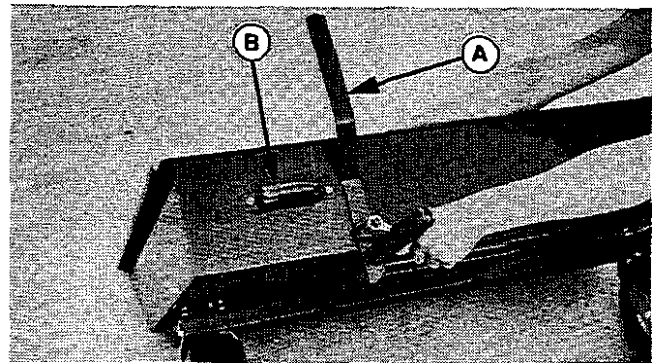

Figure 5
NOTE: The latch handle (A, figure 5) is located on the right hand side on cart, Mfg. No. 169 1526 and on the left hand side on cart, Mfg. No. 1692085.
4. Turn box with frame upright and install the latch handle (A, figure 5) and two lii handles (B) as follows: